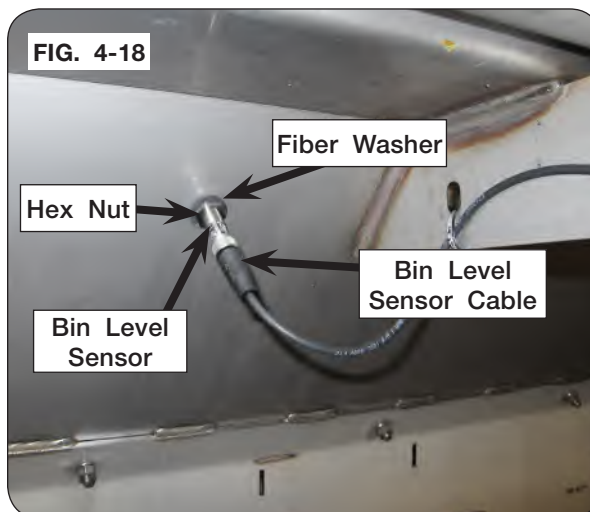

FIG. 4-18
9. Inside the spreader box, insert new bin level sensor (9008806) through the left-hand panel with connector end out of the spreader box. (FIG. 4-18)
11. Outside of the spreader box, attach bin level sensor to left-hand panel using fiber washer (9008810) and remaining hex nut. (FIG. 4-18)
12. Plug bin level sensor cable (9009180) into bin level sensor and connect other end of cable to wiring harness. (FIG. 4-18)